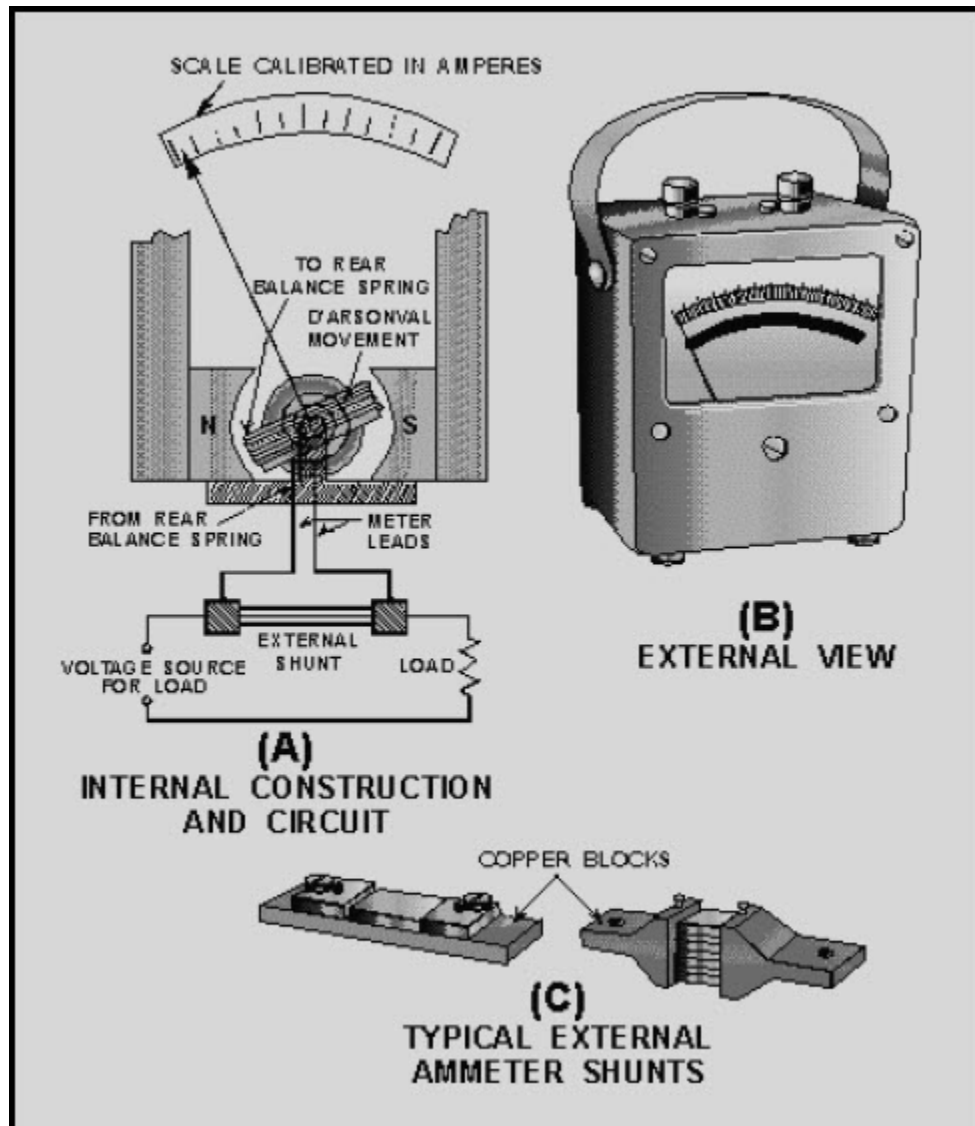

Figure 1-23 An ammeter employing the d'Arsonval principle and external shunts
For higher current ranges (above 50 amperes) ammeters that use external shunts are used. The external shunt resistor serves the same purpose as the internal shunt resistor. The external shunt is connected in series with the circuit to be measured and in parallel with the ammeter. This shunts (bypasses) the ammeter so only a portion of the current goes through the meter. Each external shunt will be marked with the maximum current value that the ammeter will measure when that shunt is used. Figure 1-23 shows an ammeter that is designed to use external shunts and a d'Arsonval meter movement. Figure 1-23(A) shows the internal construction of the meter and the way in which the external shunt is connected to the meter and to the circuit being measured. Figure 1-23(C) shows some typical external shunts.